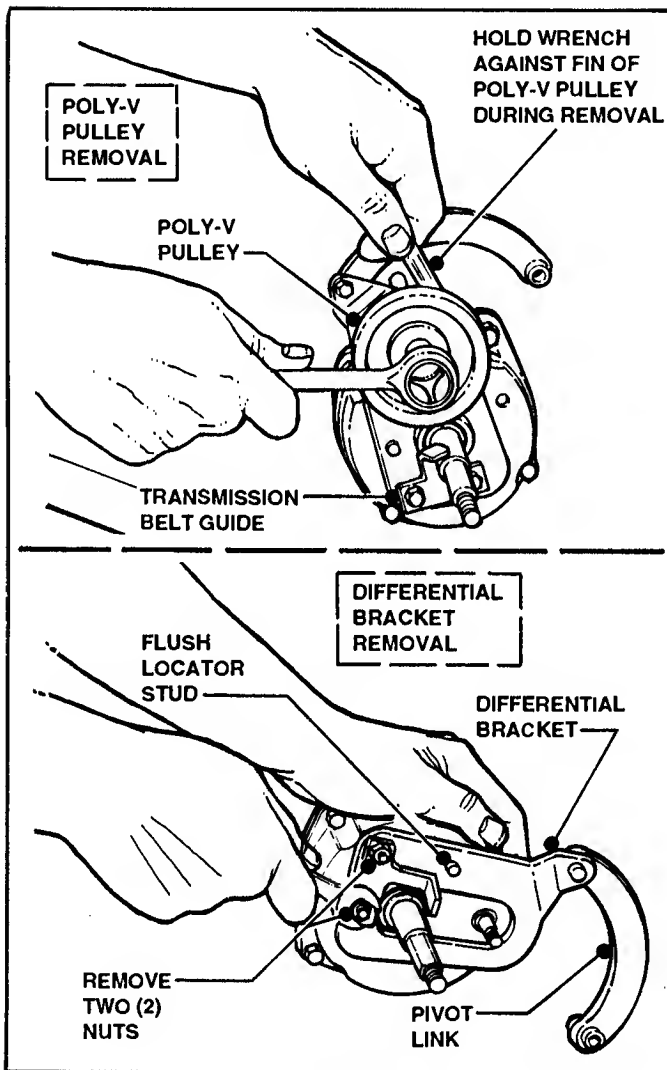

FIGURE 5.3
1. Remove Poly "V" Pulley and Differential Bracket. See Figure 5.3.